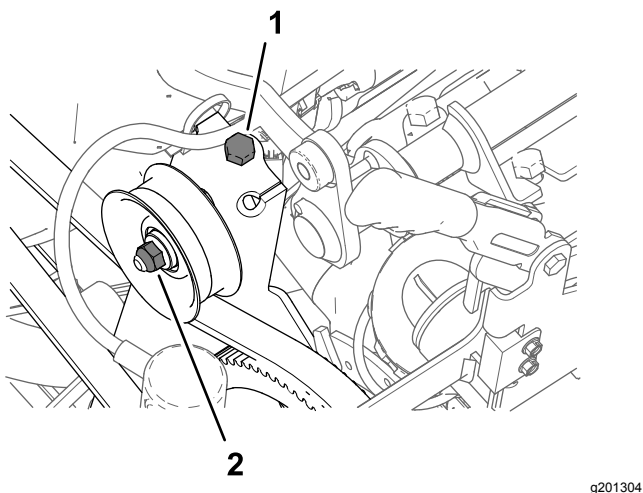

Figure 177
- Loosen the nut for the idler-pulley shaft (Figure 177).
- Rotate the belt-tension bolt to remove all tension from the sprayer-pump belt (Figure 177).